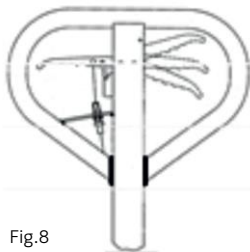

Fig.8
If necessary, you can adjust the lever according to following steps (Fig. 8):
- If the forks do not descent when the control handle is in the Lower position, turn the adjusting nut clockwise until raising the control handle lowers the forks. Then check the Neutral position according to fig. 8 and be sure that the adjusting nut is in the proper position.